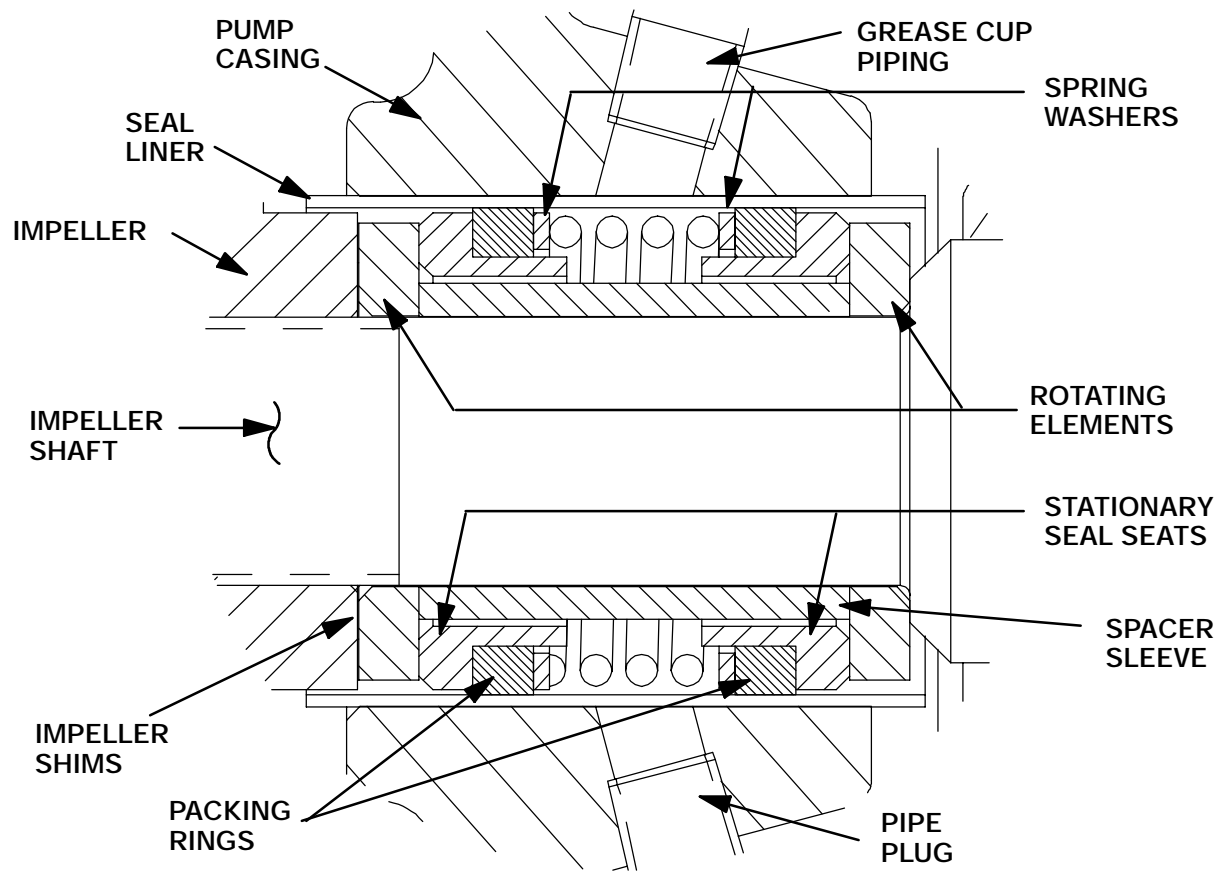

Figure 5. GS1250 Seal Assembly
Before removing the impeller, turn the cross arm on the automatic lubricating grease cup (5) clockwise until it rests against the cover (see Figure 5). This will prevent the grease in the cup from escaping when the impeller is removed.
To ease installation of the seal, lubricate the packing rings and seal liner with water or a very **small** amount of oil, and apply a drop of light lubricating oil on the finished faces. Assemble the seal as follows (see Figure 5).